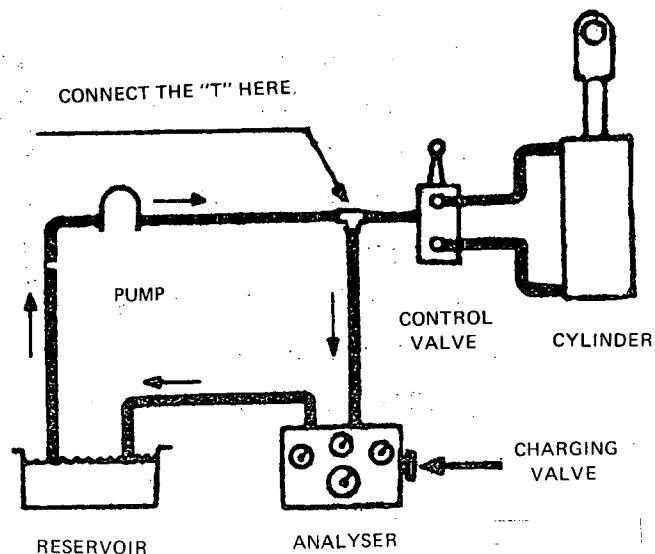

Fig. 2
- b) Couple the T to the intake of the analyser (Fig. 2).